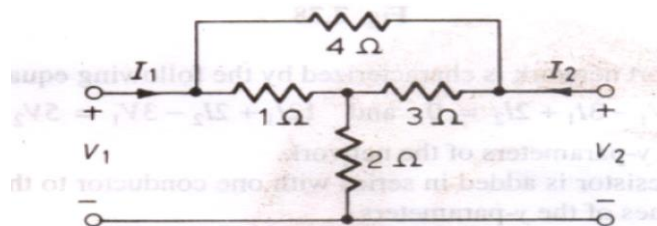

Fig. 7.75
11. Obtain the y-parameters of the network shown in Fig. 7.75 considering it as a parallel combination of two circuits.